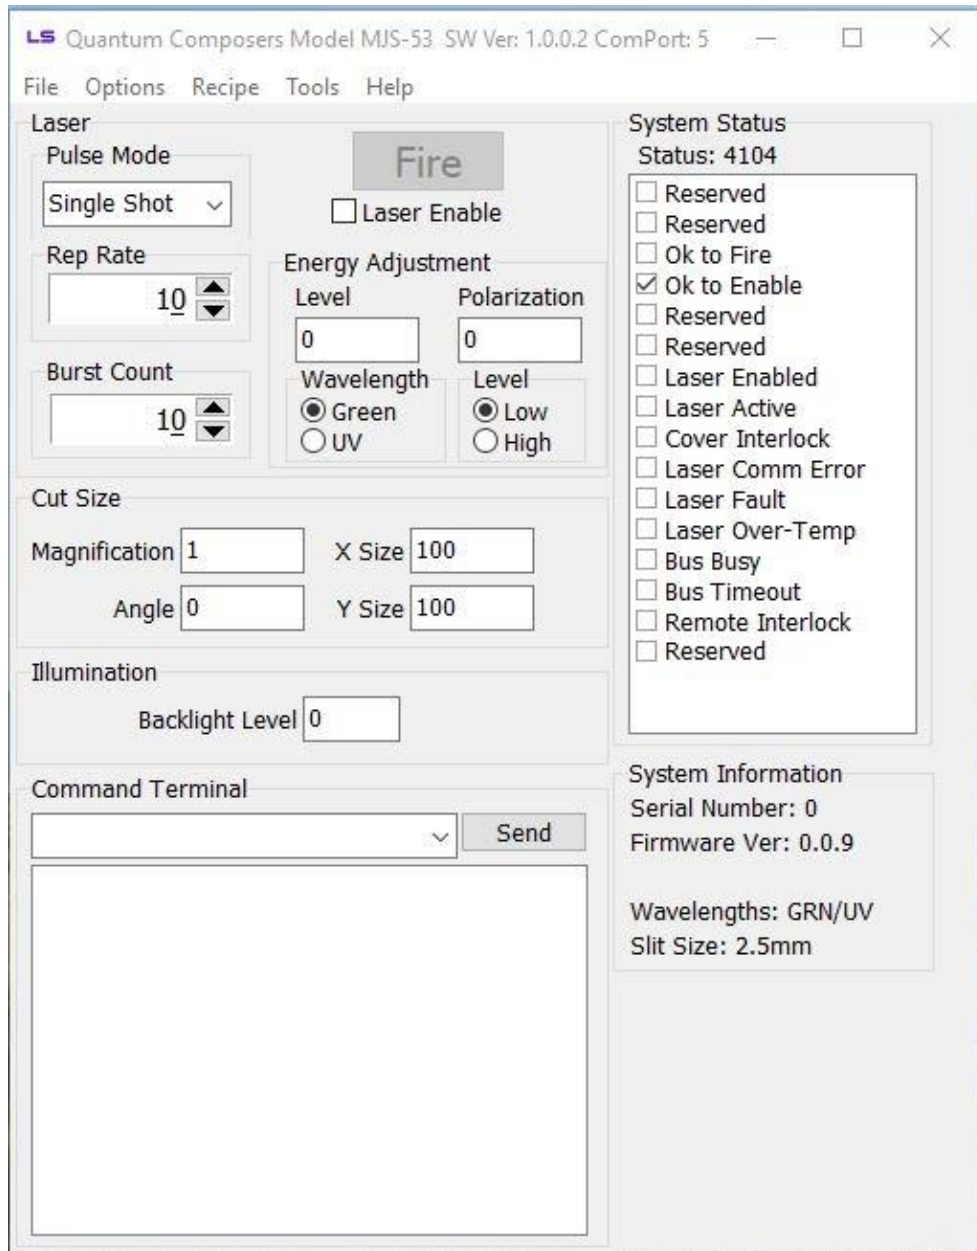

Figure 14 LS6xx Software Application Opening Screen
- The miniSystem application startup screen will be displayed as shown in Figure 14. This application has been designed as a graphical user interface for ease of use. There is a Command Terminal section that can be used as well in order to manually send and receive commands to the laser system. This area allows the user to enter a command and press Send or Enter key. The large area shows the command that was sent and the response. The large area also shows the commands and responses from controls in other portion of the Graphical User Interface (GUI).